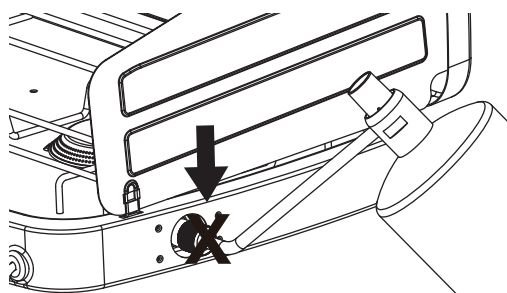

Figure 8
5. Wearing heat-resistant gloves, position a 4 inch lit match near the side of the burner (Figure 8).